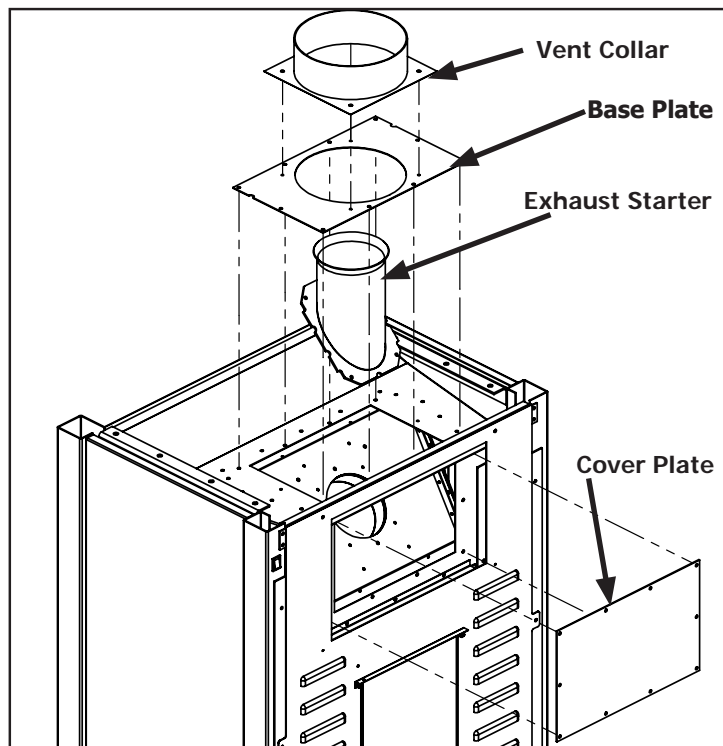

Figure 26: Vent Conversion - Step 2
Step 2: Next, remove the vent collar, base plate, cover plate and exhaust spigot (28 screws total) as shown in Figure 26.